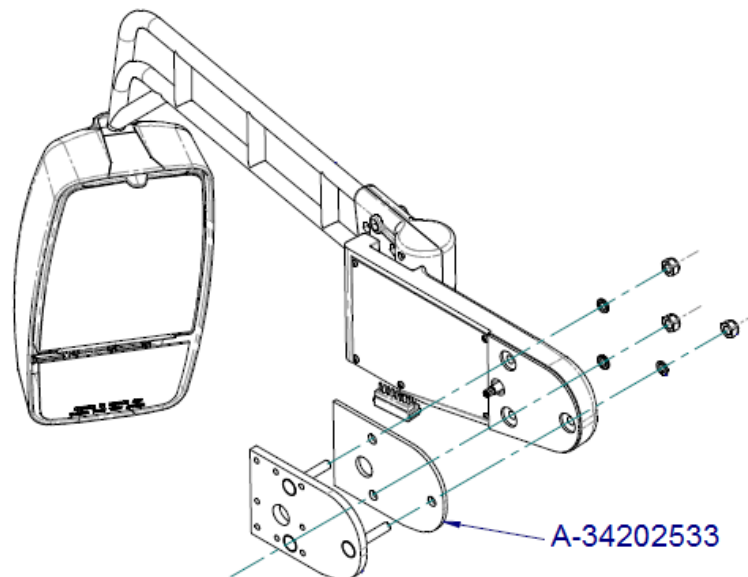

Figure 1: Enter Description of Figure Here
8. Apply a thin layer of clear sealant between the mounting plate and the spacer and also between the spacer and the mirror base. Refer to Figure 1 for exploded view of CS mirror install.